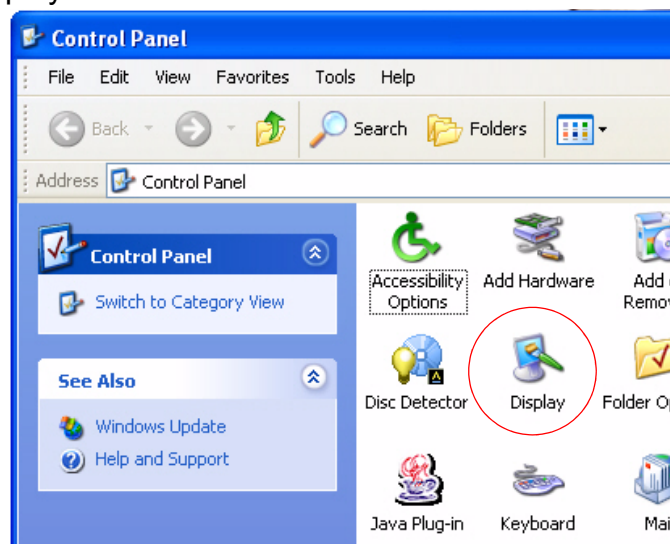
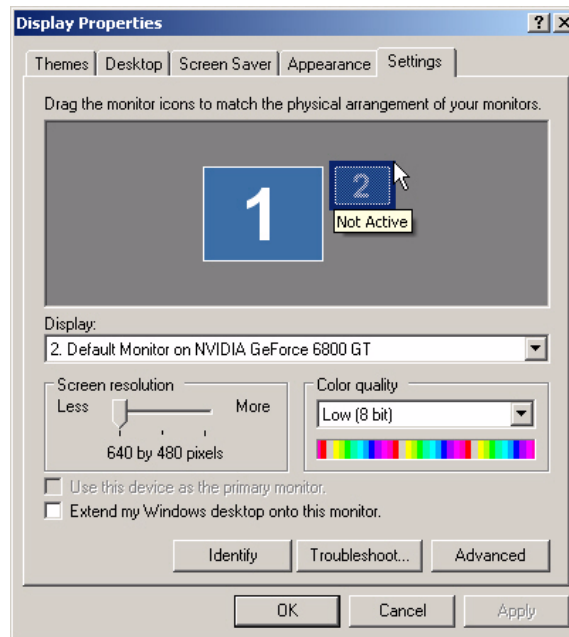

Figure 4-1. Windows XP control panel
Figure 4-2. Settings menu *before* configuring software for TV display
- Double-click the **Display** icon, circled in **Figure 4-1**. The menu pictured in **Figure 4-2** appears. The **2** icon on the right side of the display indicates that the card senses the connection of a second monitor; the “Not Active” tool tip shows that that monitor has not yet been configured.
- Important: Drag the Display Properties window pictured in **Figure 4-2** to the center of the Desktop. This is a necessary part of the actions you will take to properly center the re-sized Desktop image on your monitor.